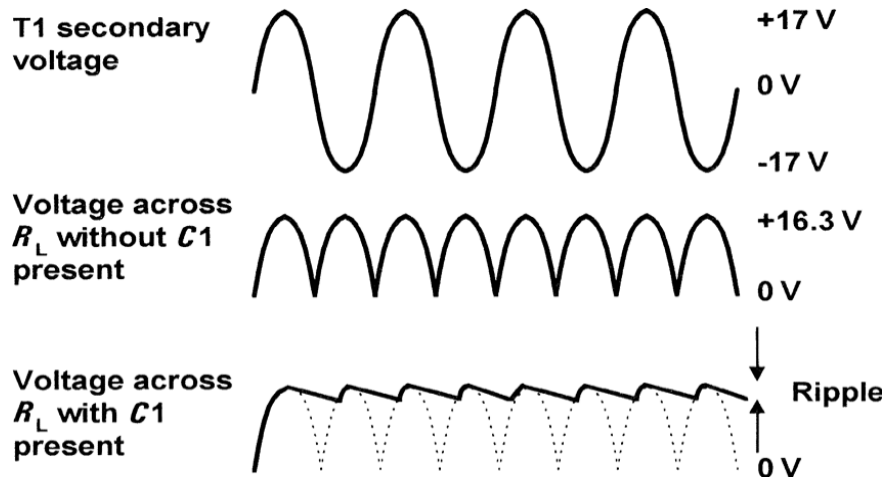

Figure 1.17 Waveforms for the bridge rectifier
- The secondary and rectified output waveforms for the bridge rectifier are shown in Fig. 1.17.
- Simple shunt zener diode regulators of the type shown in Fig. 1.17 are capable of producing values of regulation of 5% to 10%.